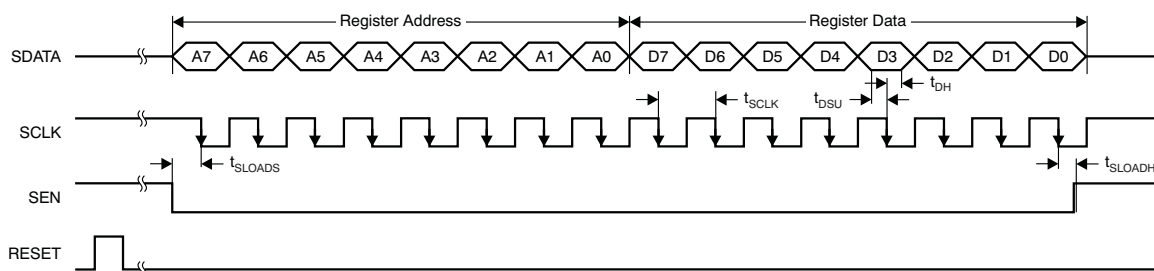

Figure 13. Serial Interface Timing
1. Either through hardware reset by applying a high pulse on the RESET pin (of width greater than 10ns), as shown in Figure 13; or